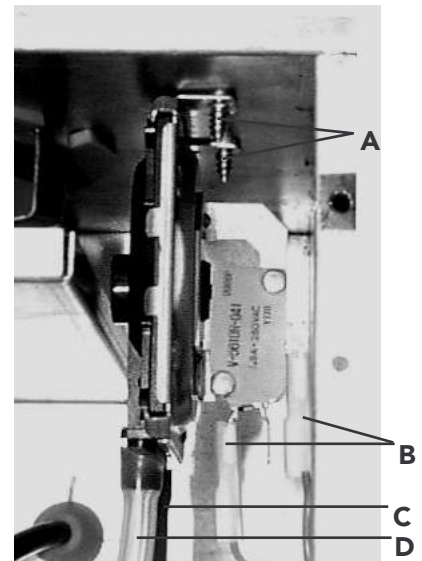

Fig. 28
**7.05 Air pressure switch (fig. 28)**